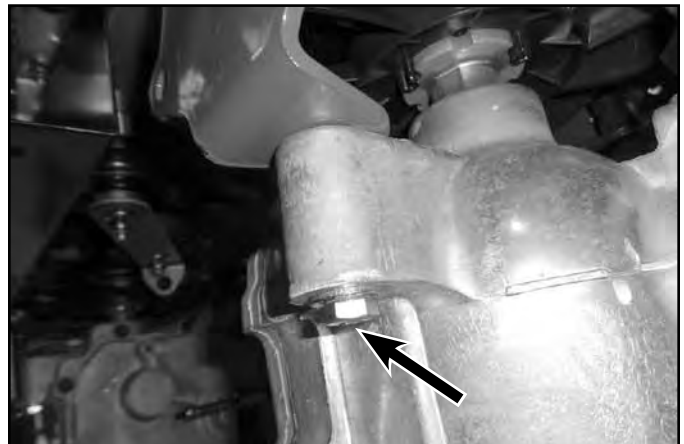

Fig. 070
15. Remove the (1) rear hydro mounting fastener (Fig. 070).